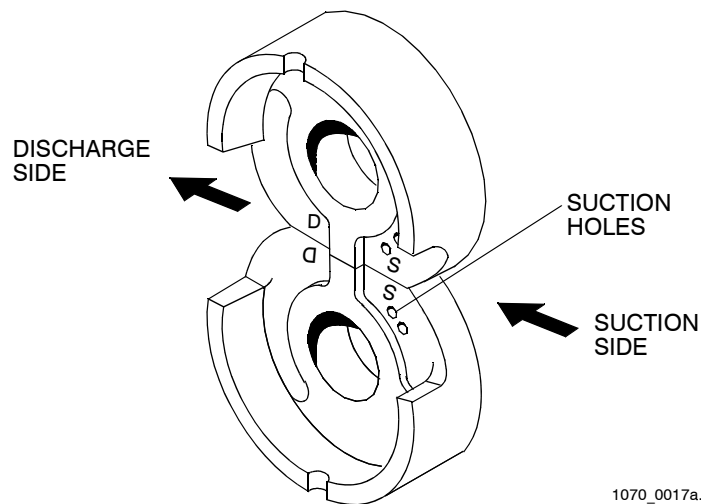

Figure 2-3. Liner Installation
2. Install liners (21) in pump body (25). Make sure liner suction holes face pump body suction port as shown in Figure 2-3.